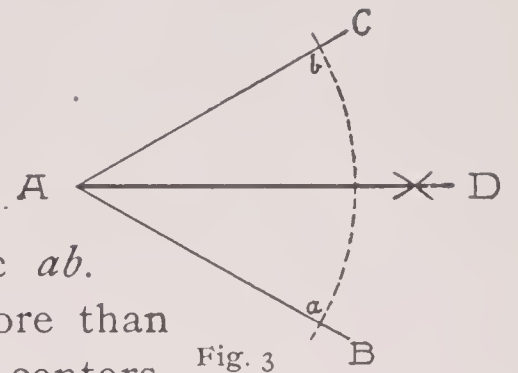

Fig. 3
3. To bisect a given angle (Fig. 3):